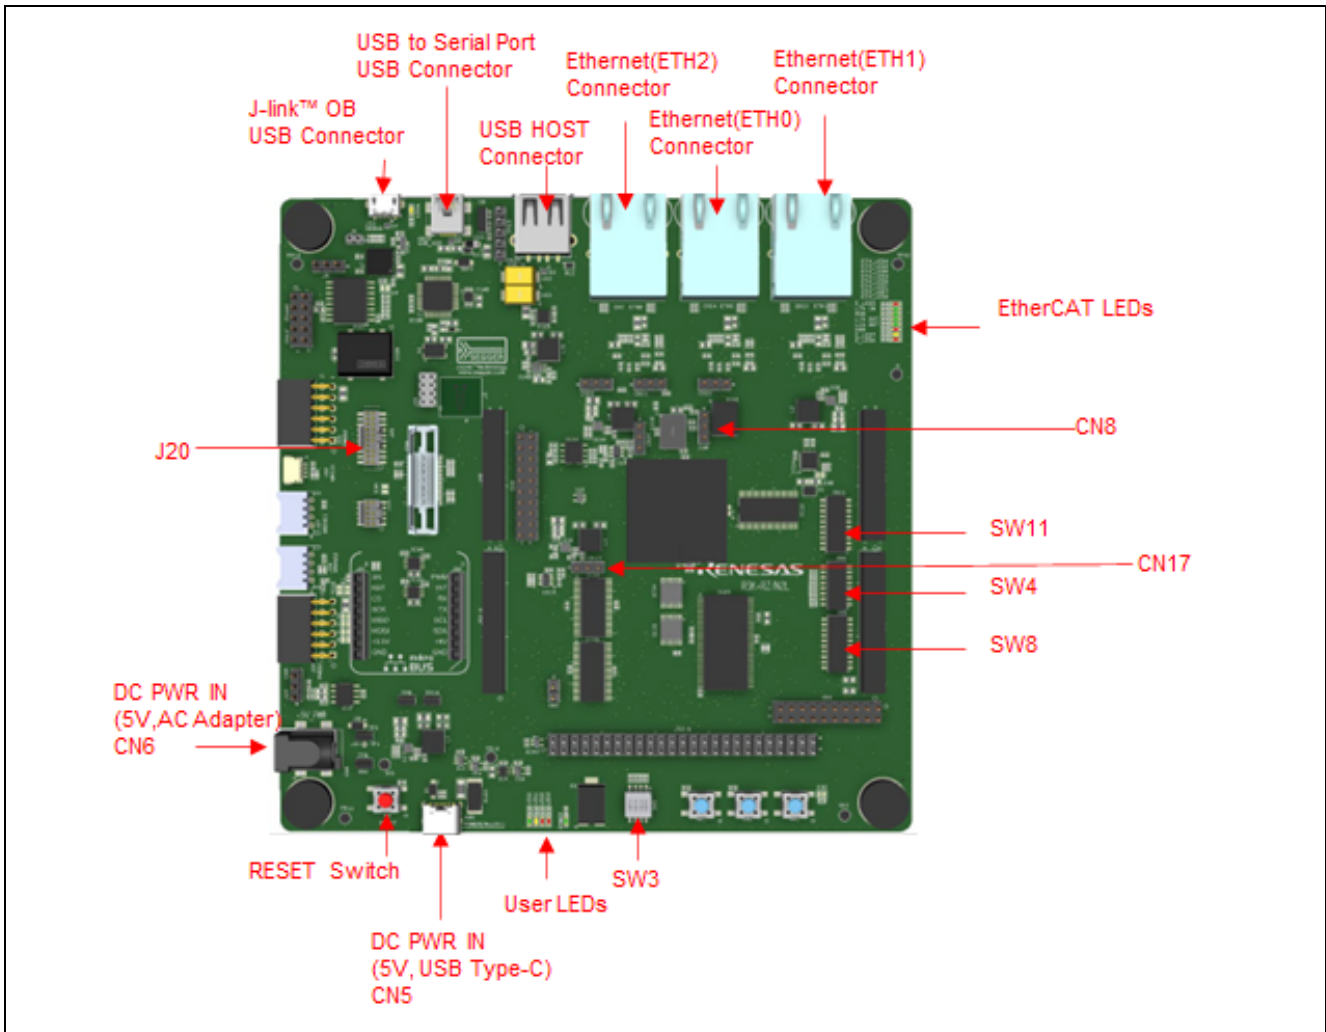

Figure 3.1 RZ/N2L RSK board layout.
3. Connect the Ethernet LAN cable to ETH0 or ETH1 on the RZ/N2L RSK board as shown on Fig. 3.1.